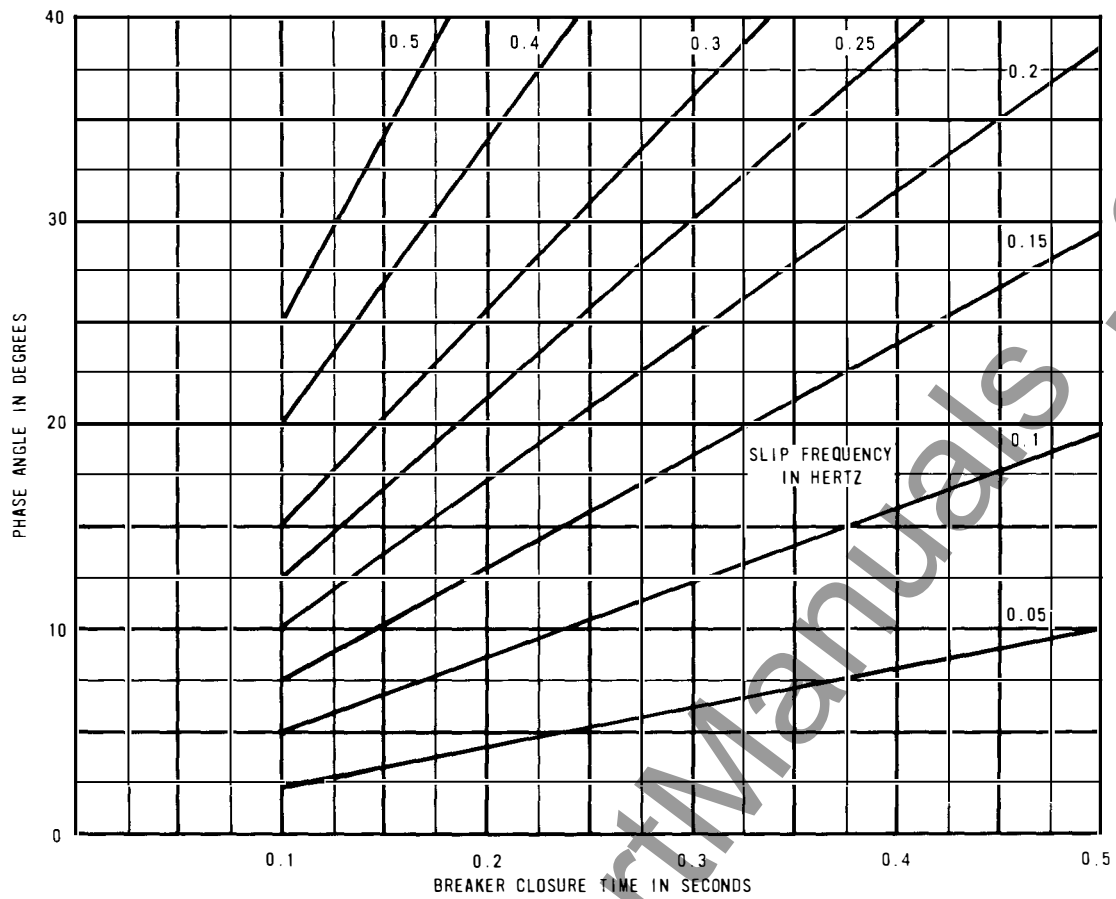

FIGURE 1: SLIP FREQUENCY ACCEPTANCE AT VARIOUS PHASE ANGLES AND CIRCUIT BREAKER CLOSURE TIMES
- **SLIP FREQUENCY ACCEPTANCE:** See Figure 1.